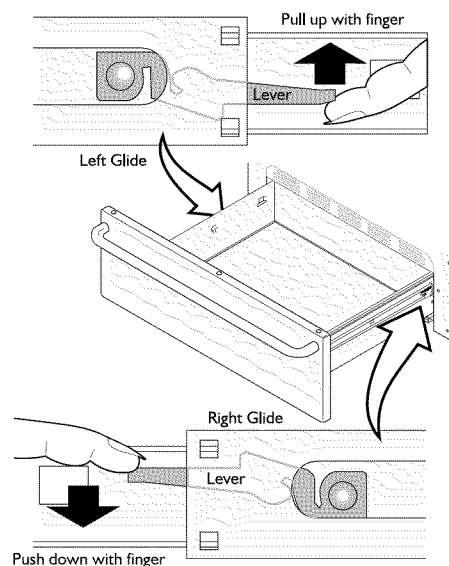

FIGURE 1
- Locate glide lever on each side of drawer, pull up on the left glide lever and push down on the right glide lever (See Figure 1).